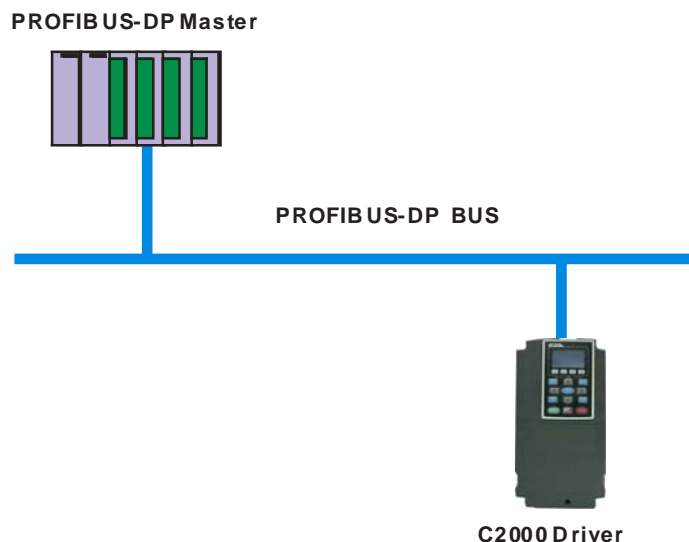

Figure 7-1
1. S7-300 as the PROFIBUS DP master; VFD-C2000 as the slave. See the PROFIBUS DP network in Figure 7-1.